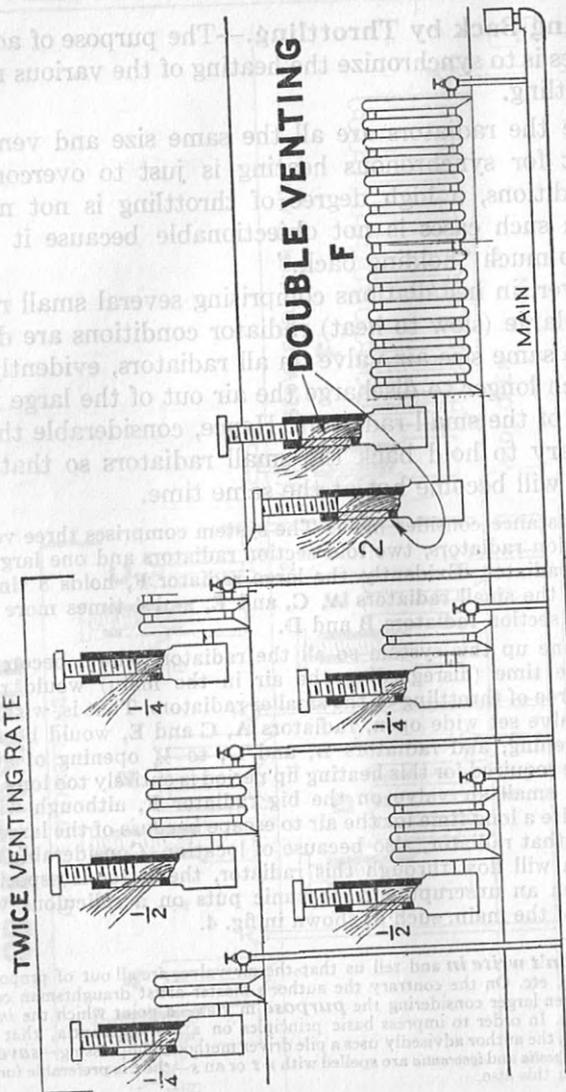

Fig. 8—Double venting to avoid extreme degree of throttling in synchronizing.
**Ans.** With two vent valves (wide open) on the largest radiator the adjustment of every other vent valve can be set at twice the venting rate, thus reducing holding back and causing the radiators to heat more rapidly. See fig. 8.
FIG. 9—Single venting equivalent of double venting, obtained by substituting two independent units F, and F' for the large radiator F of fig. 8 — this avoids tapping the extra outlet for a double vent on a large single unit.